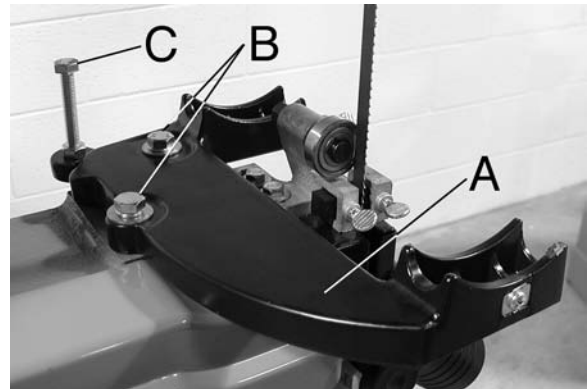

FIGURE 3
1. Locate the trunnion bracket (A-Fig.3) and bolt it securely to the band saw using 2 hex. bolts and washers (B) as shown. The longest bolt (C) is used as a stop to support the table at 90° to the blade. To install, thread a nut onto the bolt and turn the bolt into the threaded hole in the left, rear of the trunnion bracket.
5. **Table top:** Adjust the long bolt that was threaded into the trunnion bracket (C-Fig.3), so that the table rests on it when it is 90° to the blade. Lock the bolt in place by tightening the nut down onto the trunnion bracket.